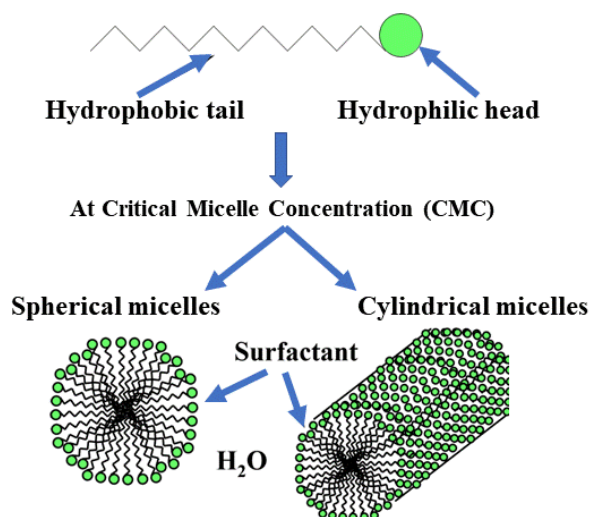

Figure 35 – Surfactant Micelles
- VIII.2.3 When the surfactant concentration is greater than the CMC, the surfactant forms aggregate cylindrical and spherical type structures called “micelles” as illustrated **Figure 35**. As the micelle forms, the surfactant hydrophilic heads position themselves so they are exposed to the water, while the lipophilic tails are grouped together in the center of the structure protected from the water. Micelles are what provide the detergency of a surfactant. As the surfactant concentration increases other micelle structures can form. The hydrophobic/lipophilic (oil-loving) tails of the surfactant micelle are what surrounds soils and releases them from the surface being clean, and depending on the specific ionic nature can perform functions such as oil emulsification, foaming, and antibacterial. To provide adequate reserve of micelles for cleaning, concentrations of 5 to 20 times the CMC are generally used. Basic spherical and cylindrical micelles can measure from about 4 to 15 nano-meters (nm) = 0.004 to 0.015 microns, while oil emulsions can measure 10 times greater.